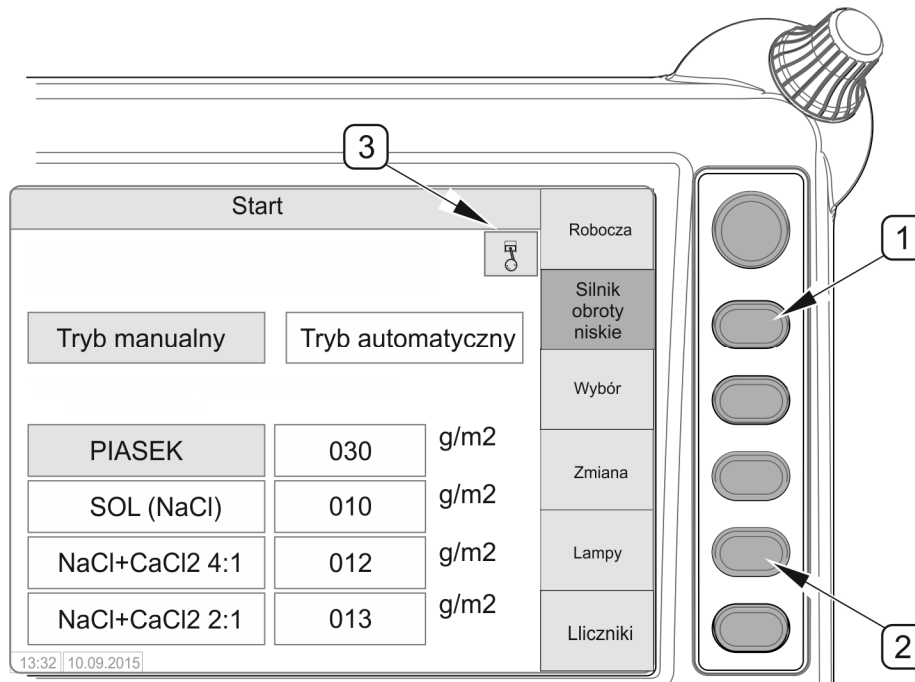

FIGURE 4.31 Stopping the engine
On "Start" home page of the control panel (FIGURE 4.31), press push-button (1) shortly to reduce the engine speed – this will be signalled by the indicator light. Let the engine run at low speed for several minutes and stop the engine by pressing and holding push-button (1) for 3 seconds. Indicator light (3) on the control panel display will go out. Switch off the sand spreader's lights by means of push-button (2) and set the main switch of the control panel to OFF position.